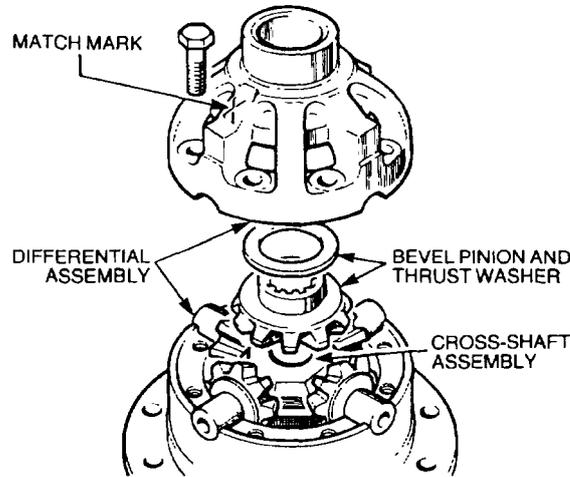

Figure 214 Differential Reassembly
- c. Fit the four pinions and dished thrust washers on the cross-shaft, position the cross-shaft assembly in the differential half and install the remaining bevel pinion with a thrust washer (Figure 214).
- d. Locate the remaining differential half on the differential assembly ensuring the match marks on the differential halves are aligned (Figure 214).